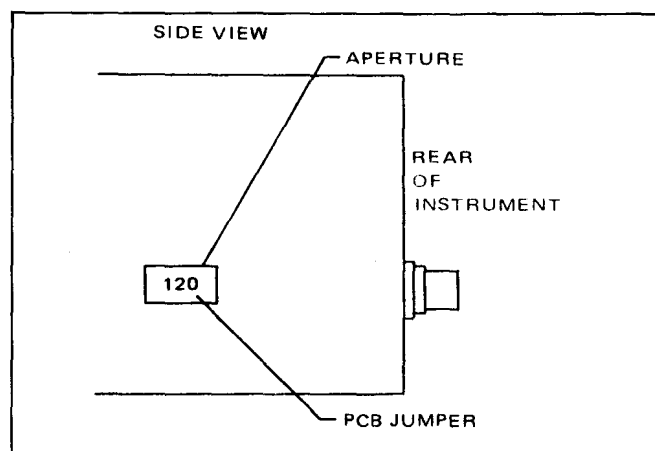

Figure 2.3 - Line Voltage Indicator Aperture
2.5.5 Selection of the line voltage is accomplished by removing the instrument from its case and positioning a printed circuit jumper so that the desired line voltage appears in the aperture in the right hand side of the case. Figure 2.2 illustrates the location of the PCB jumper and figure 2.3 illustrates the aperture with the jumper in place for 120 volt operation.